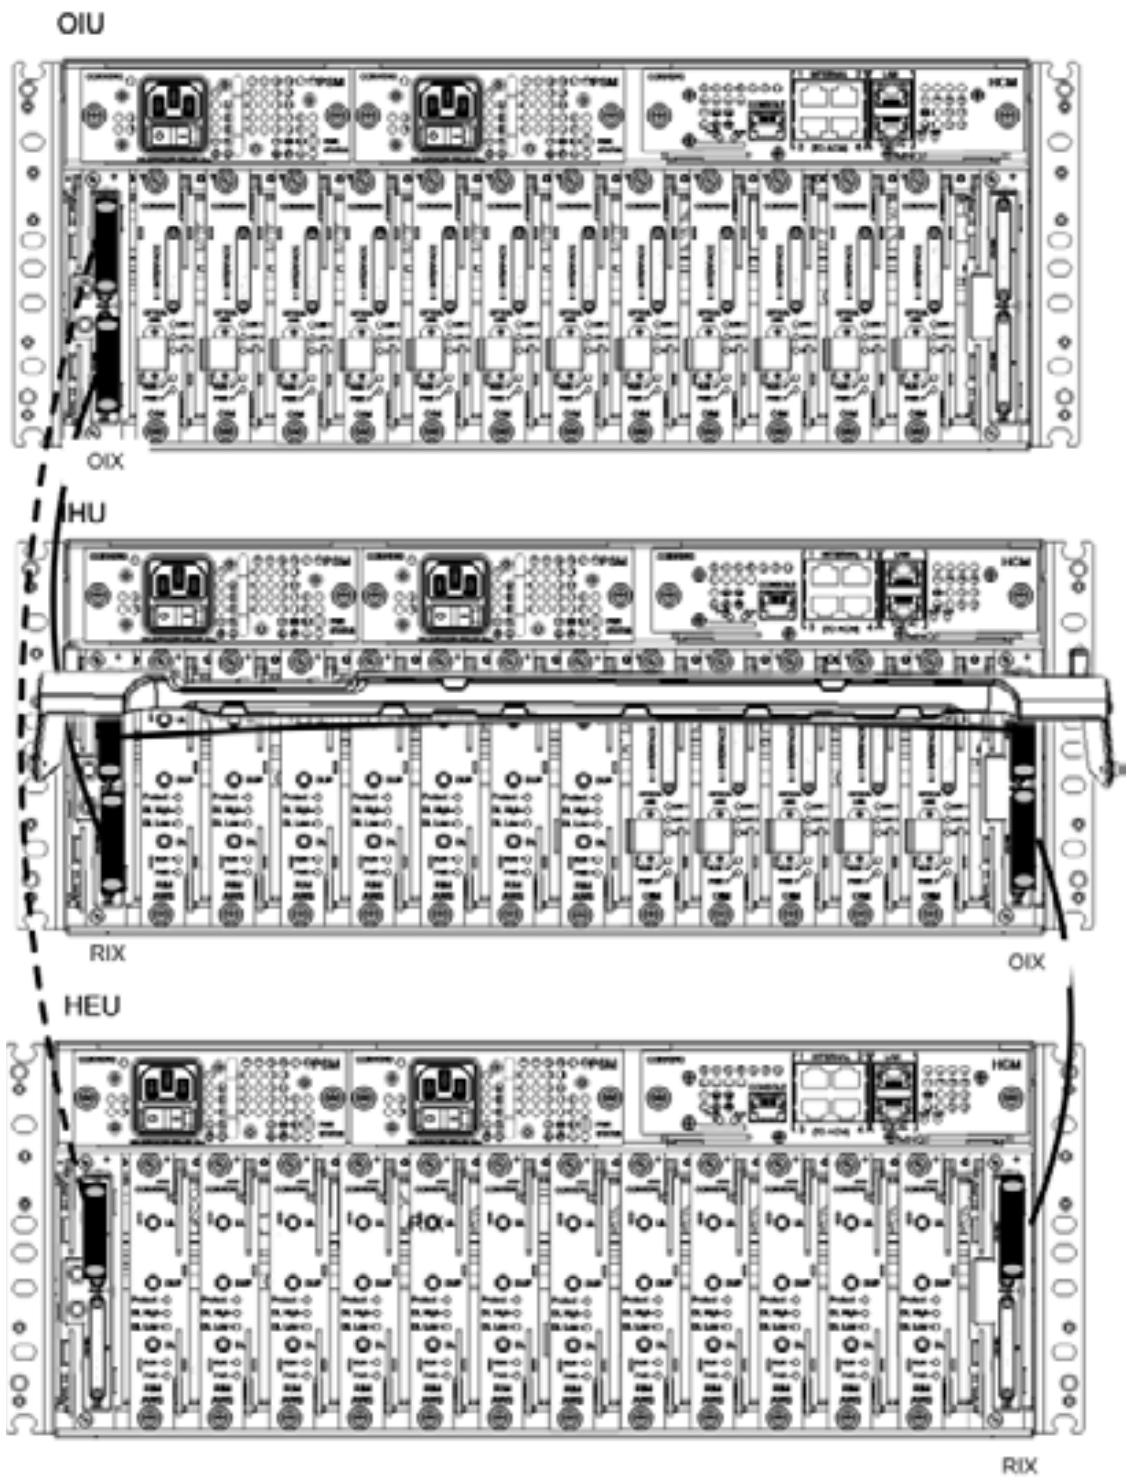

Figure 5-51. RIX to OIX Connections between IHU, HEU and OIU
- Connections to additional HEU and OIU units (see Figure 5-51):